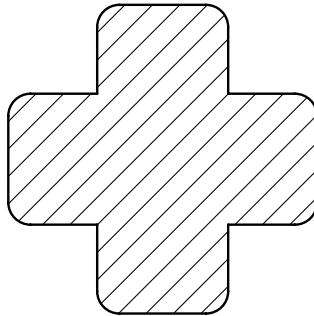

Fig. 6
- (b) Fig. 6 shows a cross-sectional view of the post for the sign.